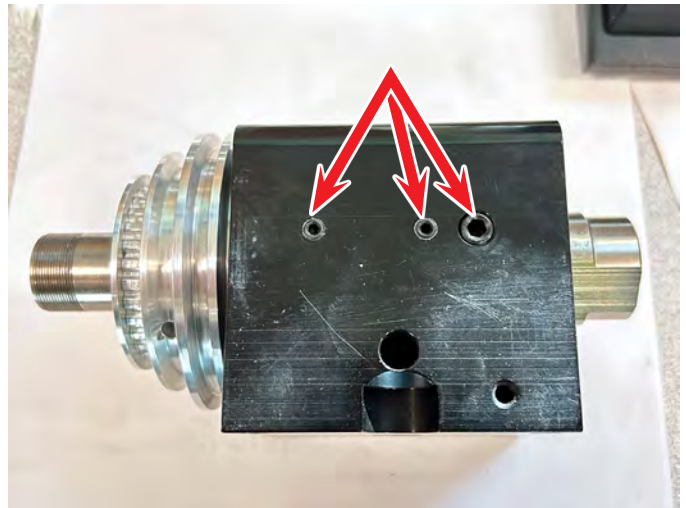

FIGURE 30
2. You will need to remove the set screws that are in the front side of the headstock, shown in Figure 30, in order to mount the encoder bracket (P/N 67110).